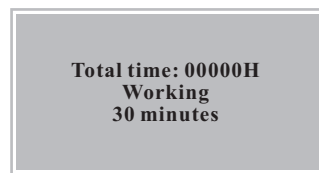

Fig. 6 Display of timed oxygen concentration
3) Continuous/timing oxygen concentration: Press the "Oxygen/Timing" button, oxygen concentrator will be started and enters into "Continuous" oxygen concentration working state. The LCD displays the total use time and other contents of oxygen concentrator, as shown in Fig. 5. After medical oxygen concentrator is started, press the "Oxygen/Timing" button again, medical oxygen concentrator will enter into timing oxygen concentration state, and the timing is 30 minutes (see Fig. 6), for each press of "Oxygen/Timing" button, preset time will be increased by 30 minutes (maximum preset time is 120 minutes); users can preset the time for oxygen concentration as required. After a timing of 120 minutes, press the "Oxygen/Timing" button again, oxygen concentrator without atomization function will stop oxygen concentration, while oxygen concentrator with atomization function will enter into atomization mode, press the "Oxygen/Timing" button again, it will stop oxygen concentration.